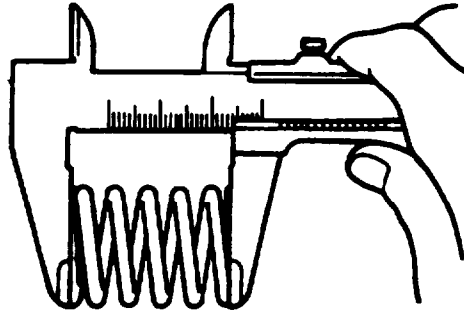

FIGURE 3-71. Valve Spring Free! Height
- j. Check valve spring free length using a vernier caliper, refer to FIGURE 3-71. Standard height of inner spring is 1.89 in. (47.9 mm), with a limit of 1.83 in. (46.5 mm). Standard height of outer spring is 1.86 in. (47.3 mm), with a limit of 1.80 in. (45.8 mm). If measured value is less than limit, replace spring.